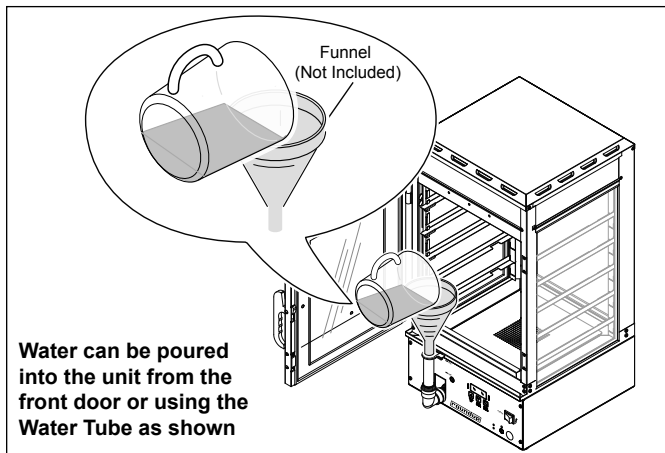

Figure 6. Filling SDC-500 with Water
3. Pour 7 quarts (5.6 liters) of clean tap water into the Water Pan (Figure 6).